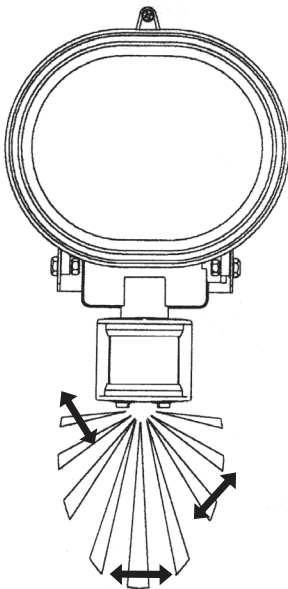

Fig. 1B
- Before positioning the floodlight, bear in mind that movement across the detection zone will be detected before motion towards or away from the sensor. (Fig.1B,C).